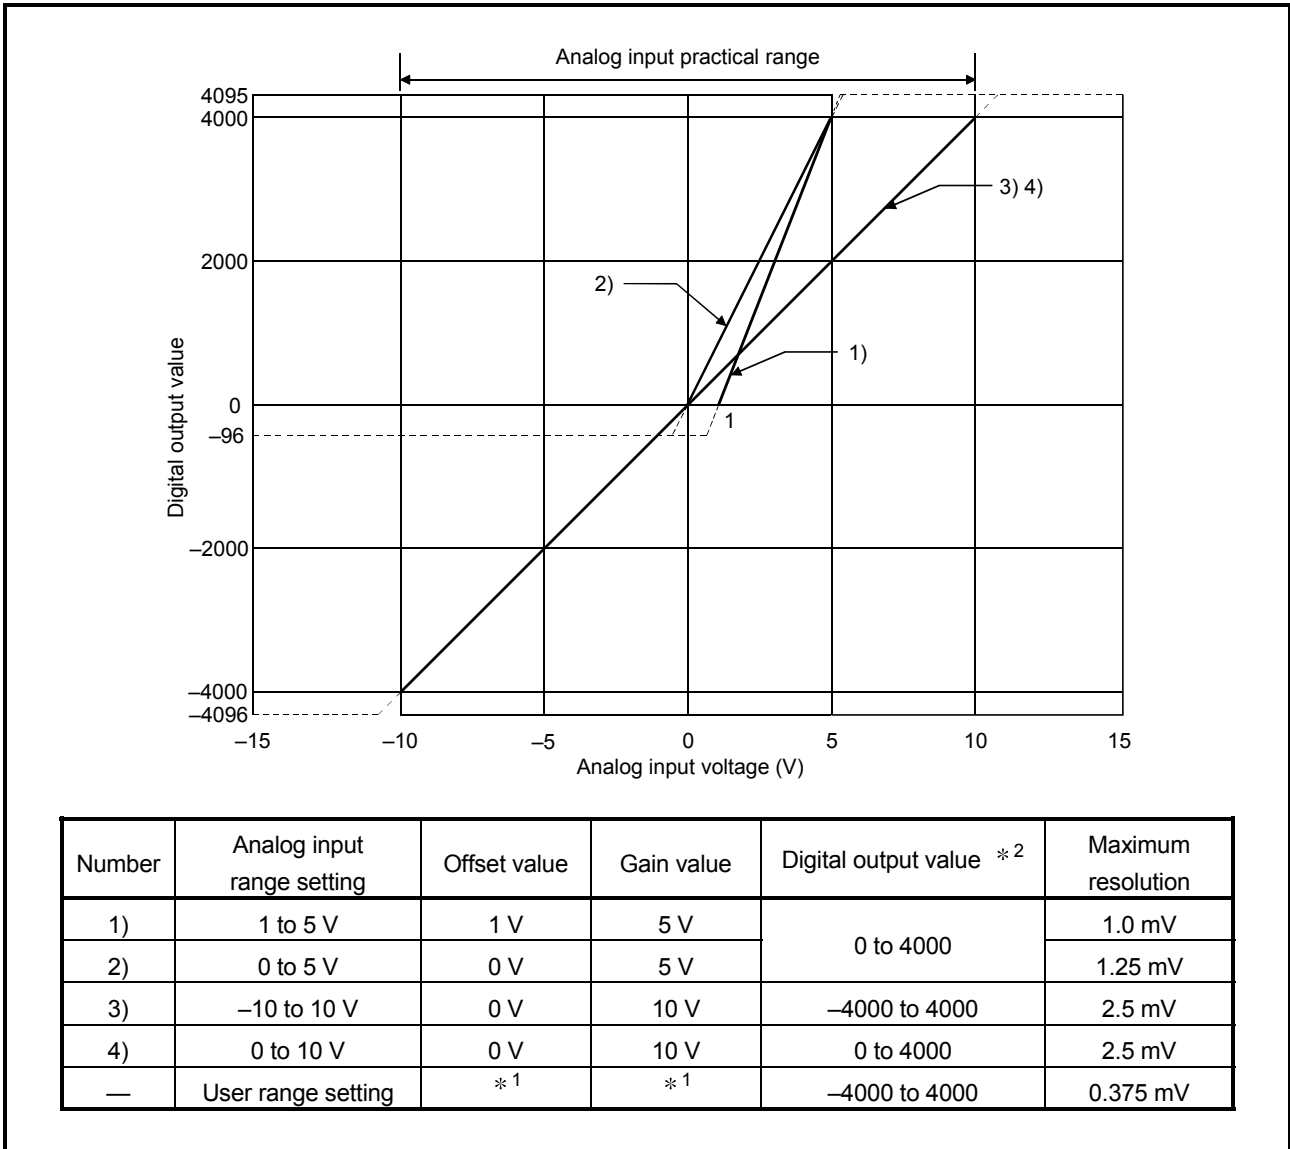

Figure 3.1 Voltage input characteristic in normal resolution mode
Figure 3.1 shows a graph of the voltage input characteristic in normal resolution mode.
<p>(1) Set within the analog input range and digital output range for each input range. If these ranges are exceeded, the maximum resolution and accuracy may not fall within the performance specifications. (Avoid using the dotted line area shown in Figures 3.1 and 3.2.)</p> <p>(2) When inputting an analog voltage out of the range between -15 to 15V, the elements may be damaged.</p> <p>(3) Set the offset/gain values for the user range setting *1 within a range in which the following conditions are met.</p> <p>(a) Offset value, gain value setting range: -10.0 to 10.0V</p> <p>(b) Choose either one of the following formulas, which corresponds to the resolution mode to be set.</p> <p>1) Normal resolution mode: { (Gain value) - (Offset value) } &gt; 1.5V</p> <p>2) High resolution mode: { (Gain value) - (Offset value) } ≥ 4.0V</p> <p>(c) { (Gain value) - (Offset value) } ≤ 10.0V</p> <p>(4) When an analog value that exceeds the range for Digital output value *2 is entered, Digital output value will be fixed at the maximum or minimum value.</p>